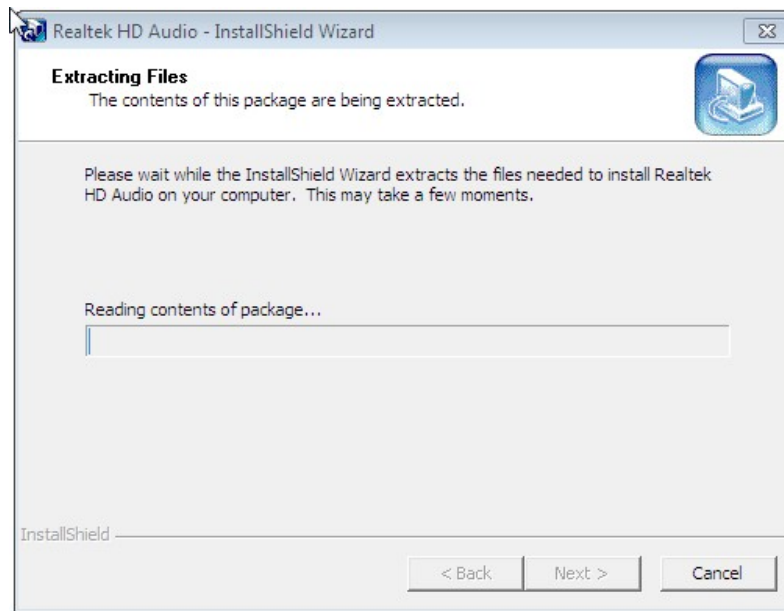

Figure 6-17: Audio Driver Installation File Extraction
Step 5: The installation files are extracted as shown in **Figure 6-17**.